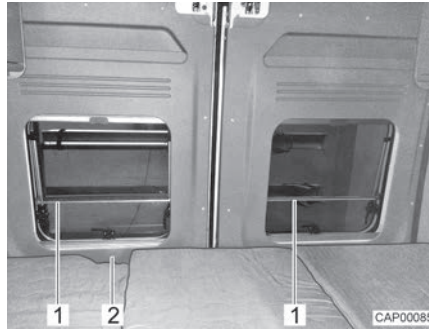

Fig. 72 Fall out protection (longitudinal rear bed)
- ▷ The windows of the rear doors are equipped with a fall out protection (Fig. 72,1). The garage door can always be unlocked from the interior via the opening (Fig. 72,2).